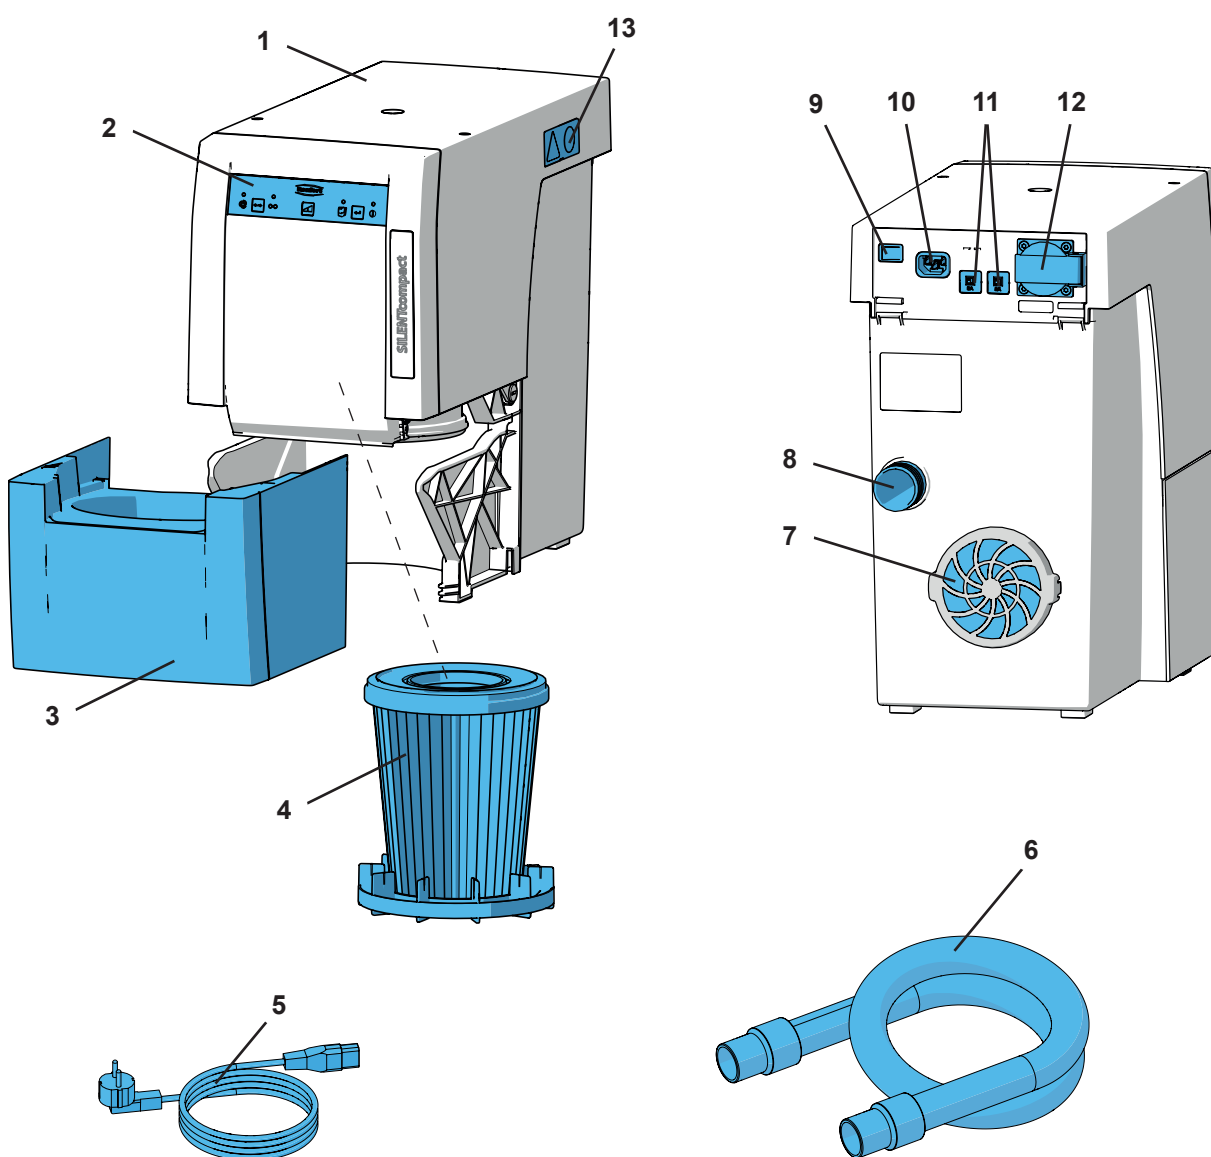

Fig. 1
- The exhaust vent (7, Fig. 1) is not blocked.
- ⇒ Switch the device OFF at the On / Off switch (9).
- ⇒ Connect the power cable (5, Fig. 1) to the power supply (10).
- ⇒ Insert the suction tube (6, Fig. 1) into the suction port (8).